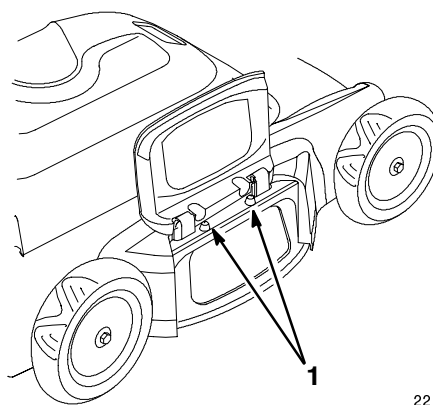

Figure 8
2. Hook the side discharge chute onto the pegs (Figs. 8 and 9).